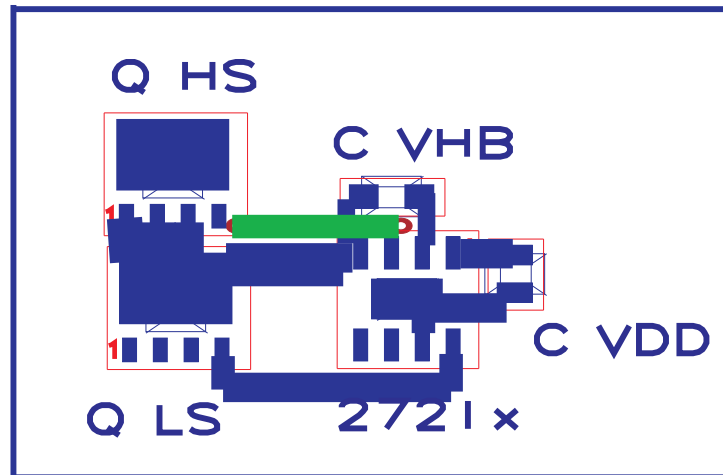

Figure 24. UCC27210/11 Component Placement
- Locate the  $V_{DD}$ - $V_{SS}$  and  $V_{HB}$ - $V_{HS}$  (bootstrap) capacitors as close as possible to the device (see Figure 24).
- Pay close attention to the GND trace. Use the thermal pad of the DDA and DRM package as GND by connecting it to the VSS pin (GND). The GND trace from the driver goes directly to the source of the MOSFET but should not be in the high current path of the MOSFET(S) drain or source current.